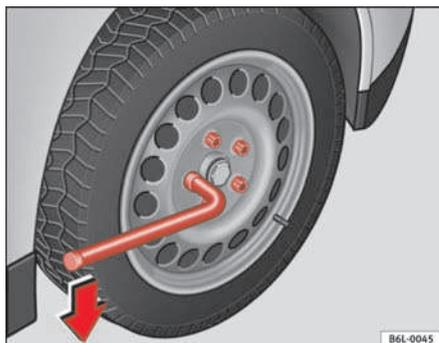

Fig. 133 Changing the wheel: loosen the wheel bolts
- Grasp the box spanner by the end turn it about one full turn to the **left** ⇒ **fig. 133**.